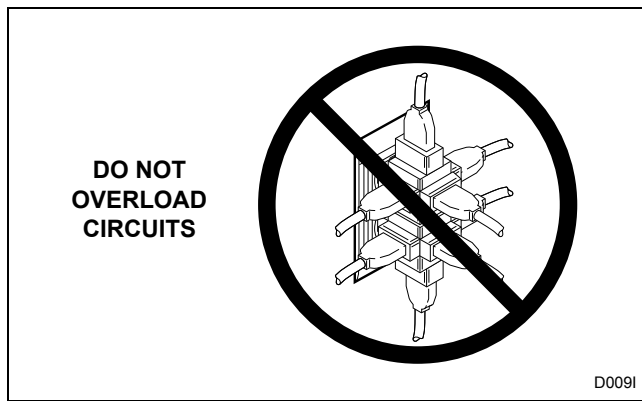

Figure 27
- DO NOT OPERATE OTHER APPLIANCES ON THE SAME CIRCUIT WHEN THIS APPLIANCE IS OPERATING. DO NOT OVERLOAD CIRCUITS! Refer to *Figure 27*.